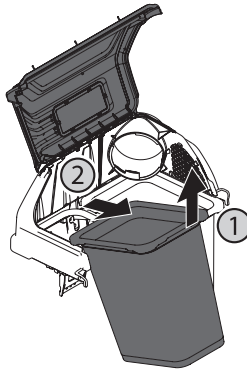

Figure 30
3. Remove both bag assemblies from the bag support branches by lifting the back edge up first, and then sliding the front edge out and up until it is clear of the frame. See Figure 30.